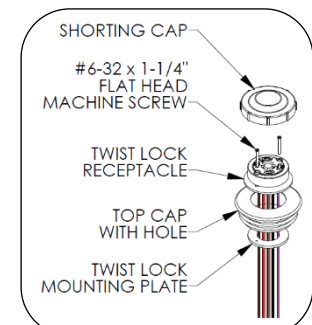

Fig. 7 – Install optional twist lock receptacle to top cap
5. Install the top cap on the pole (shipped with the pole). If the unit has a twist lock receptacle, assemble the receptacle and the top cap as shown in Fig. 7 and connect wiring before installing the top cap. Install provided shorting cap or photo-electric control.